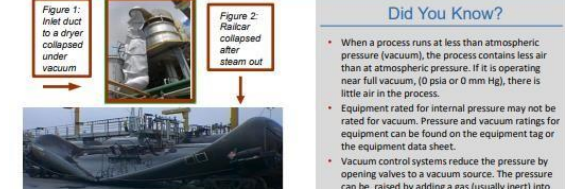

Figure 1: Inlet dust to a dryer collapsed under vacuum Figure 2: Railcar collapsed after steam out
- Exposing equipment to a strong vacuum source, such as an eductor or vacuum pump, without adding a gas to control the pressure (See Figure 1)